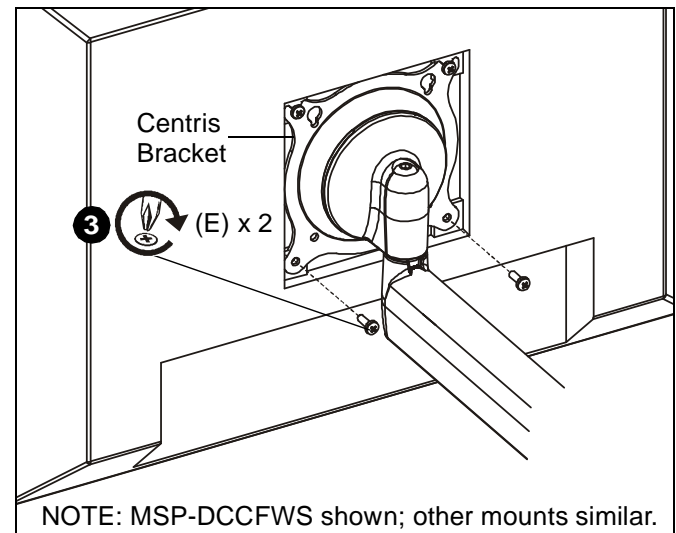

Figure 6
3. Using Phillips screwdriver, install two remaining screws (E) through the *lower* mounting holes in Centris bracket into the display. (See Figure 6)